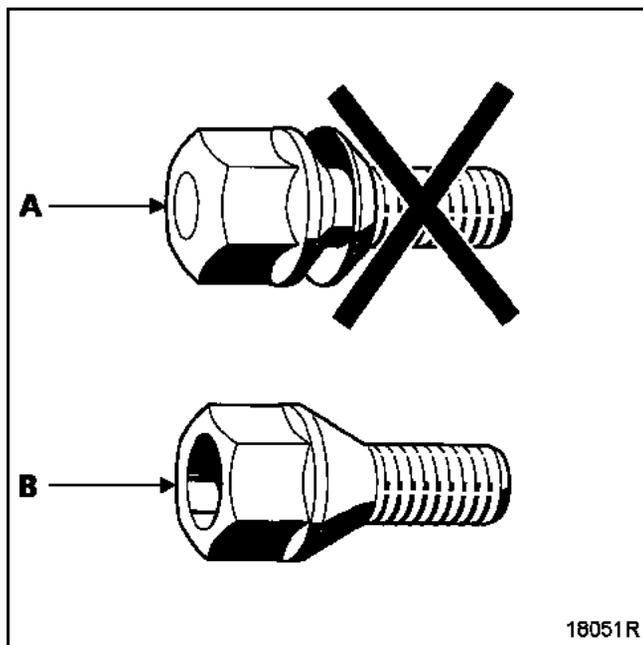

Fig. 1
Vehicles manufactured **BEFORE AUGUST 2000** fitted with wheel bolts with a washer (A) (Fig. 1)
When fitting the spare wheel or winter wheels, **bolts suitable for fitting pressed steel wheels must be used.** These vehicles are supplied from the outset with a set of four bolts in the emergency spare wheel holder and a label making this recommendation is stuck to the emergency spare wheel (Fig. 1).
NOTE: a set containing a bag of four bolts (B) (Fig. 1) + a label is available as a spare part under **Part number: 77 01 206 798.**